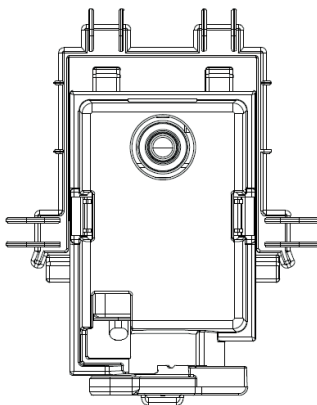

Figure 5
- Refit the pump securely into the mounting (Figure 5), close the water tank and secure into place with the release knob.